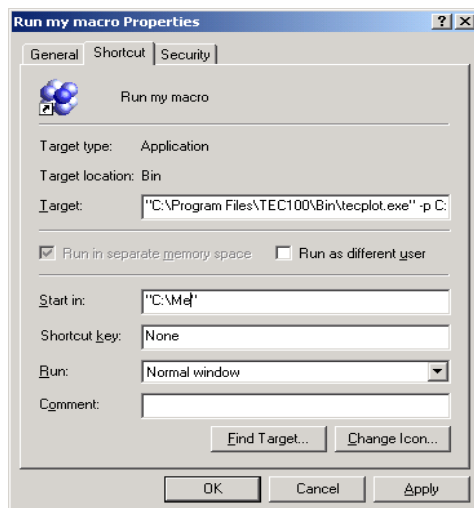

Figure A-2. The Shortcut page in Windows.
3. On the Shortcut page (Figure A-2), modify the command line by changing the setting for Target. To change the working directory that Tecplot runs under, change the Start in location.